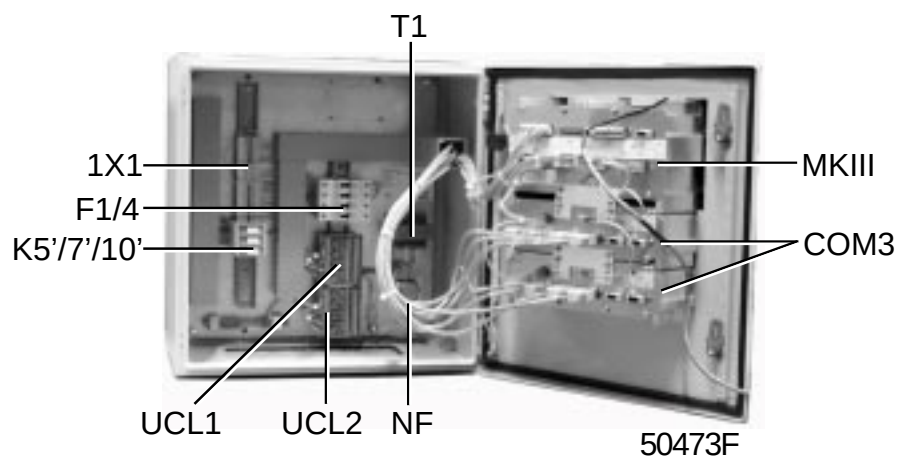

Fig. 1.3. ES100 with two communication modules (COM3)
- ES100 with two communication modules (COM3-Fig. 1.3), allows 7 Elektronikon-regulated compressors or a combination with maximum 3 relay-regulated compressors (Product number 8104 0114 27)